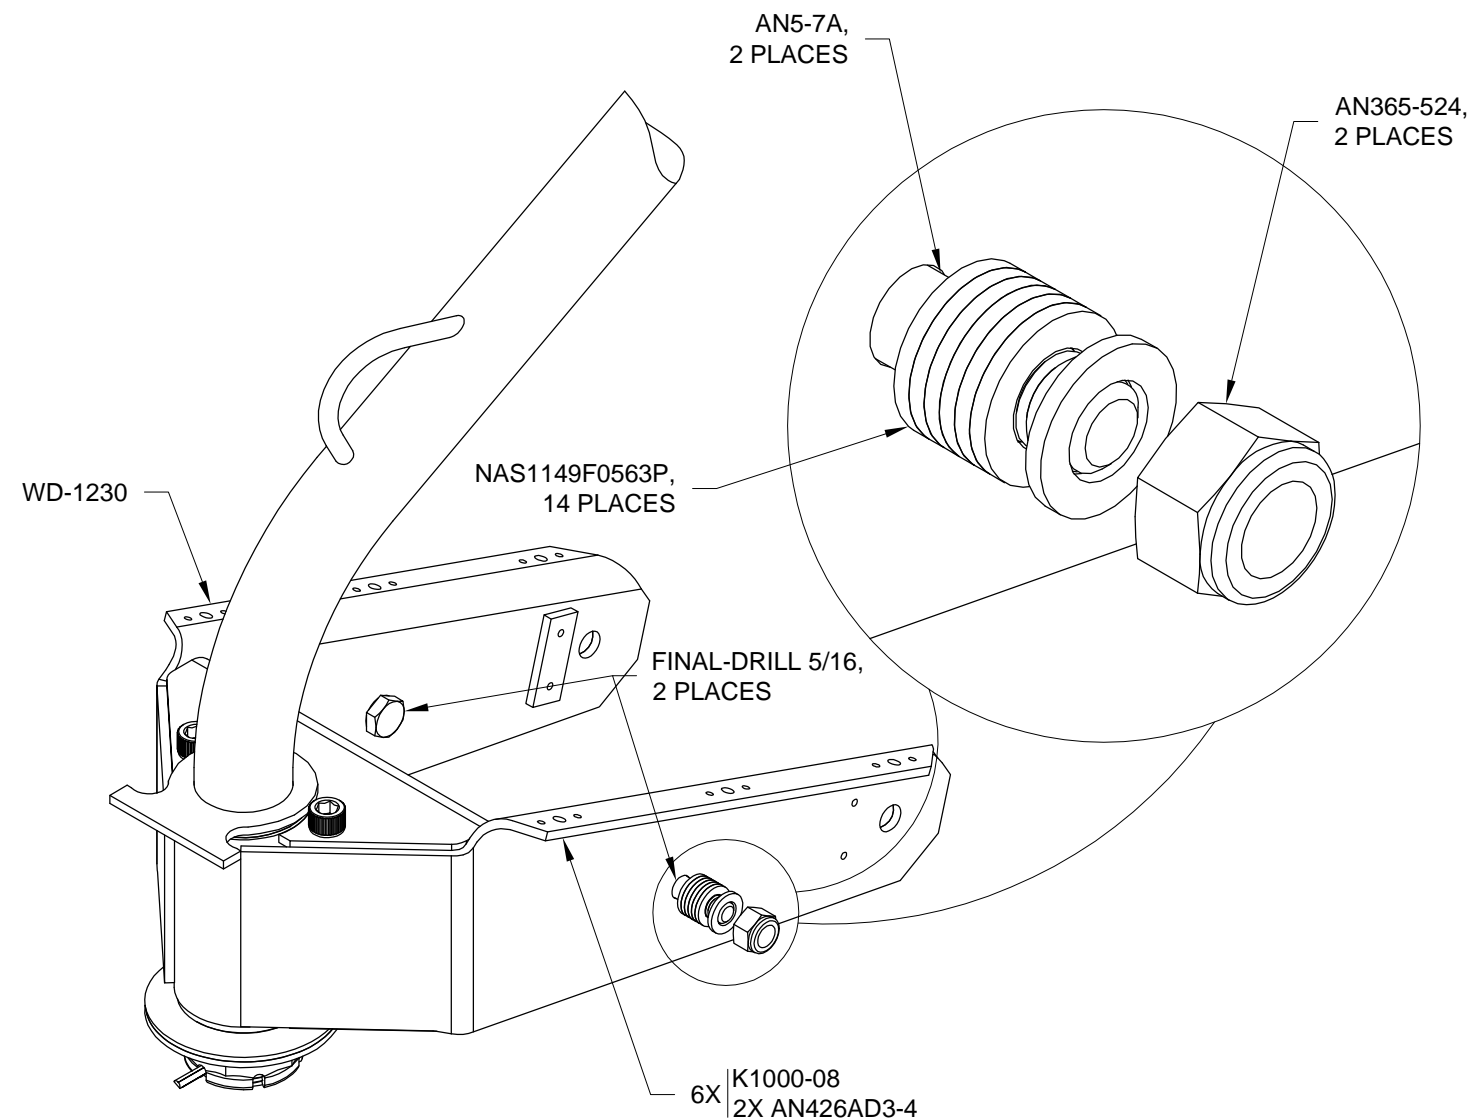

FIGURE 1: ADDING HARDWARE TO NOSE FORK
Step 1: Remove the Nose Wheel Assembly from the WD-1230 Nose Fork. Machine countersink the rivet hole locations on WD-1230 Nose Fork to fit the head of an AN426AD3 rivet. Rivet the nutplates called out in Figure 1 onto the nose fork.
Final-Drill 5/16 the 1/4 inch holes in the nose fork as shown in Figure 1. Install the bolts, washers and nuts shown in Figure 1. Reinstall the Nose Wheel Assembly.